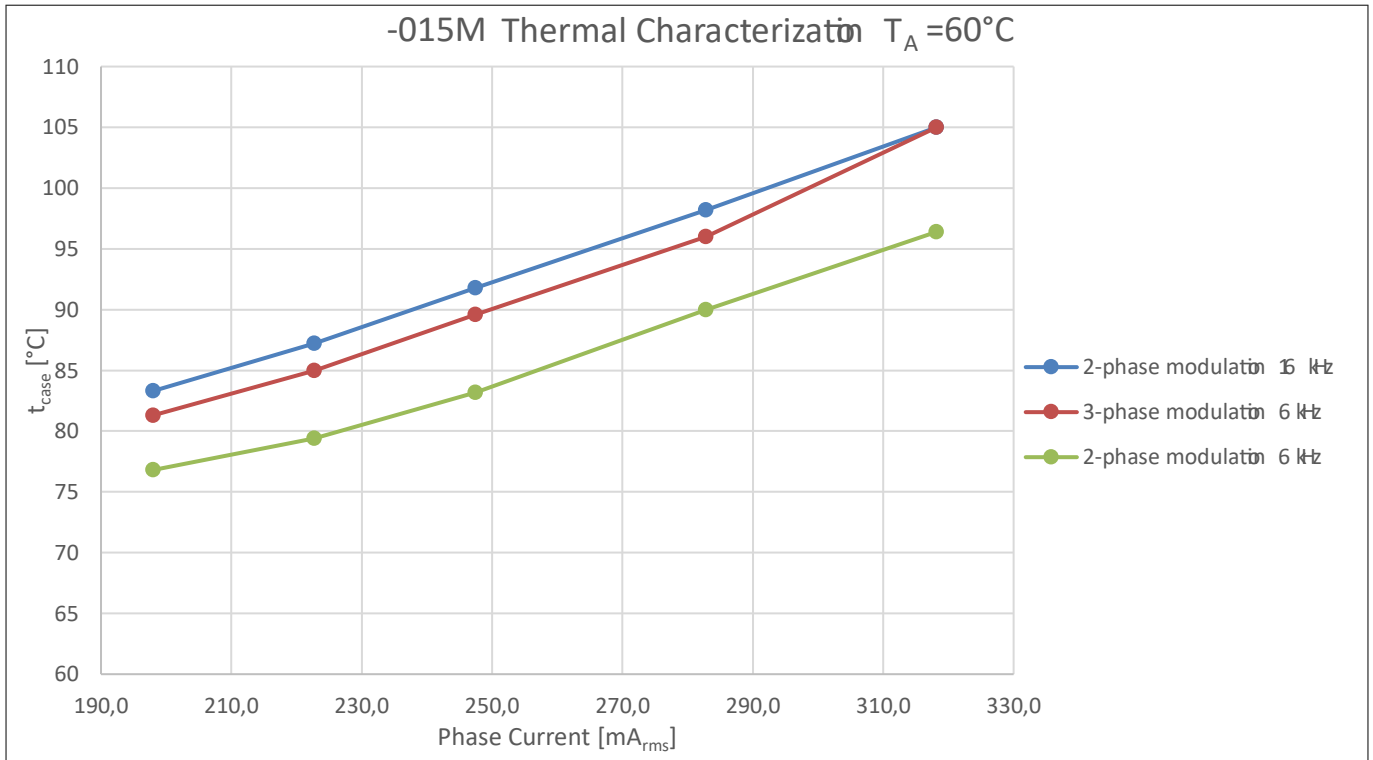
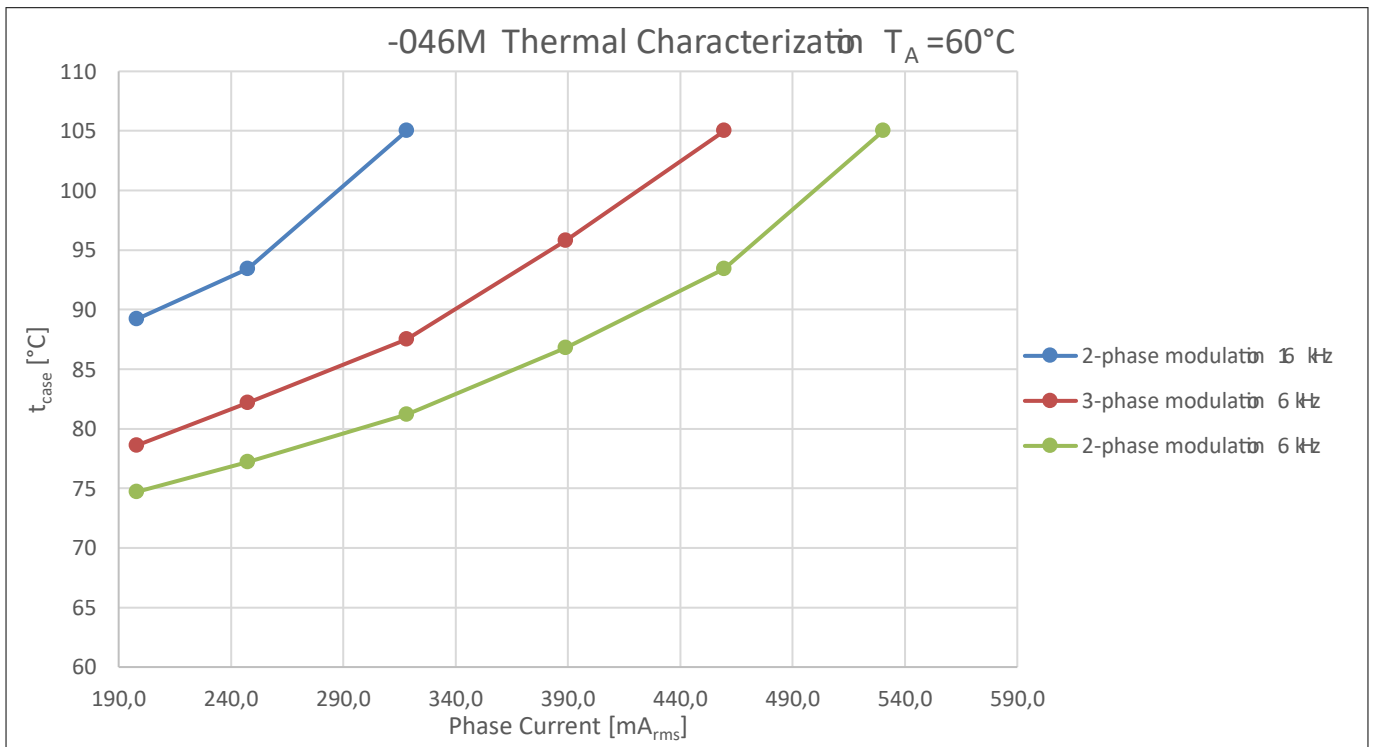
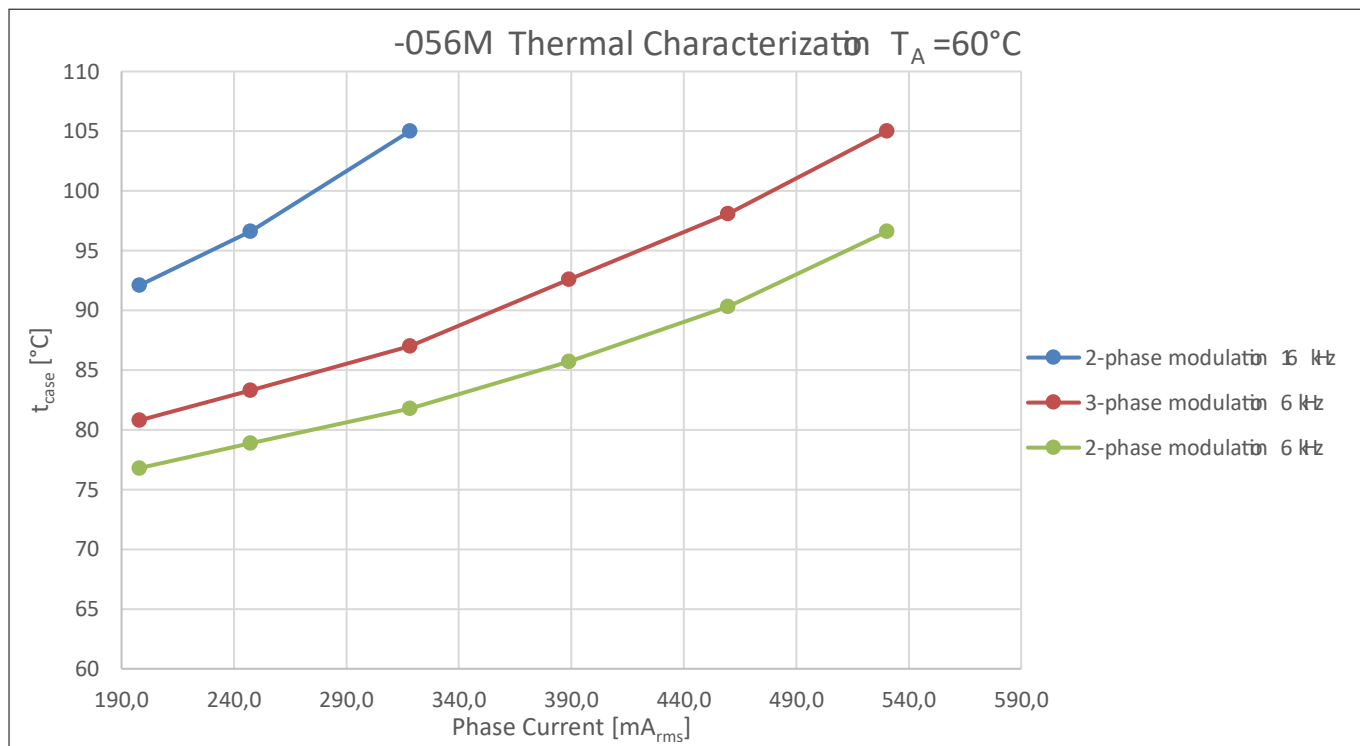

Figure 21 IMM100T-015M thermal characterization, $T_A = 60^\circ\text{C}$, different phase current values until the case reaches 105°C , FR4 PCB with 2oz copper
Figure 22 IMM100T-046M thermal characterization, $T_A = 60^\circ\text{C}$, different phase current values until the case reaches 105°C , FR4 PCB with 2oz copper
Figure 23 IMM100T-056M thermal characterization, $T_A = 60^\circ\text{C}$, different phase current values until the case reaches 105°C , FR4 PCB with 2oz copper
- Figure 21, Figure 22, Figure 23: $T_A = 60^\circ\text{C}$